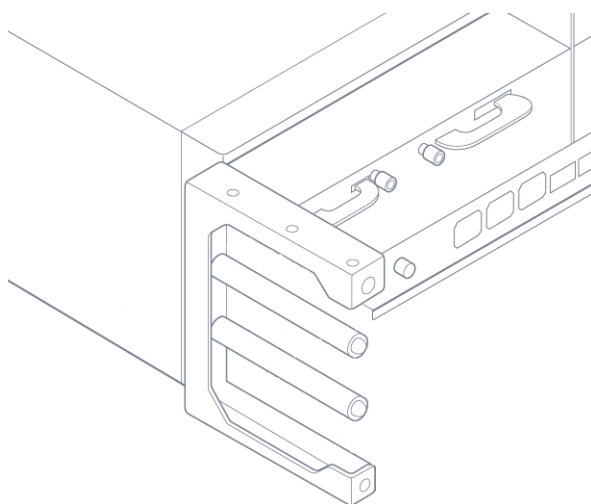

Figure 3-7: Cable Management Sides
2. Attach the cable management sides to the left and right of the chassis. Attach two screws on each side of the chassis as shown in Figure 3-7 on page 64 for the left side.